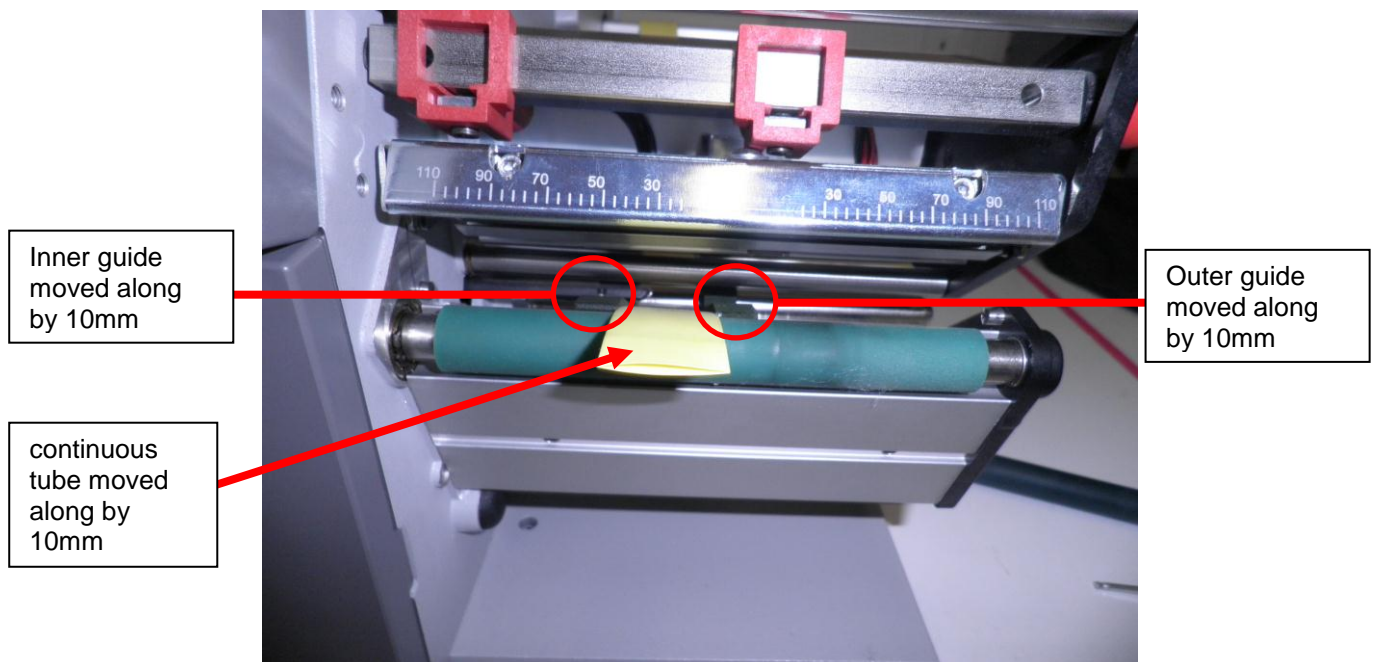

Figure 2, example of guides and tube moved after wear is detected
4. Deduct the width of the product previously printed from the +50mm from the pos X. (For the example show in Figure 2, the pos X is reduced to +40mm)